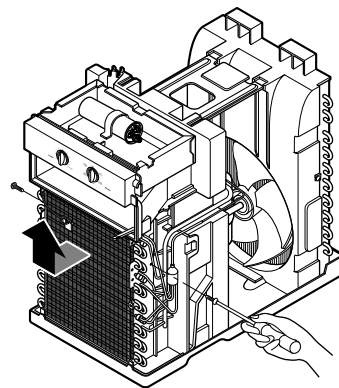

Figure 17
8. Re-install the components by referring to notes on page 10. (See Figure 17)